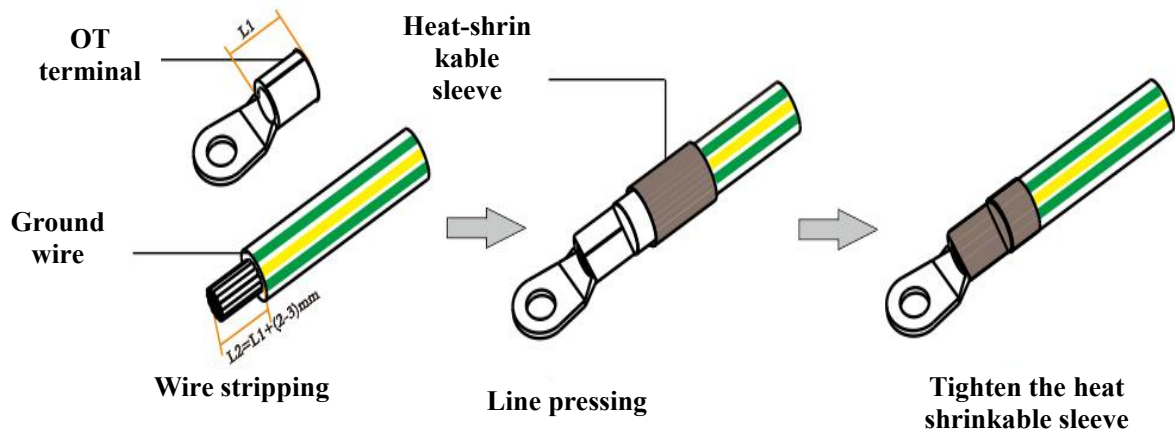
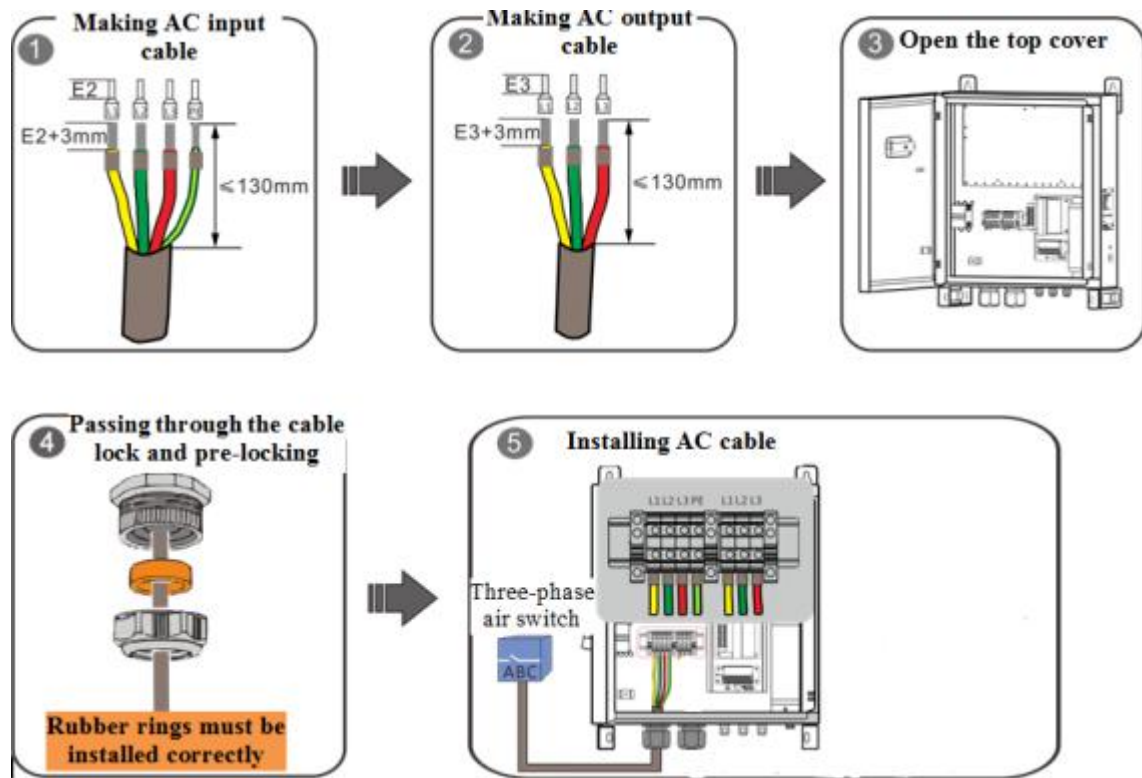

Figure 3-2 Schematic Diagram of Cable Making (OT terminal)
Figure 3-3 Cable Connection on AC Side
- (1) Before PID product installation, lead the ground wire from the ground wire bus to the product installation position;
- (2) Use wire stripping pliers to strip a section of bare copper core from the ground wire with corresponding specifications, and the length of bare copper core is 3 mm longer than the terminal of OT terminal;
- (3) Crimp the OT terminal to the bare copper core with wire crimping pliers;
- (4) Heat shrinkable sleeve with suitable size is sleeved on the terminal of OT terminal, and the length is generally recommended to be 1.5-2 times of the terminal;
- (5) Blow the heat shrinkable sleeve tightly with a hot air gun to wrap the terminal and cable tightly, and the cable is manufactured (the manufacturing process is shown in Figure 3-2);
- (6) Fasten the OT terminal of grounding wire at the grounding interface with M6 screws. Please refer to Table 3-2 for fastening torque.
- (1) Remove the cable lock on AC side and the tail plug;
- (2) Pass the cable through the waterproof cable lock, as shown in Figure 3-3;
- (3) Use wire stripping pliers to strip the insulation layer and cable sheath according to the dimensions shown in Figure 3-3-① - ②, and select the corresponding terminal according to the cable used to make the AC output cable, where two layers of heat shrinkable sleeves are required. Refer to Figure 3-2 for the cable making process;
- (4) Connect the AC cable from the low-voltage distribution cabinet to the left terminal block L1/L2/L3 through the AC INPUT cable lock. Refer to Table 3-2 for the fastening torque of the terminal fastening screws;
- (5) Connect the PE on the terminal block to the block for low-voltage distribution function;
- (6) After the connection is completed, tighten the plastic nut at the tail of the cable lock to ensure waterproof;
- (7) Repeat the above steps to connect the right terminal block L1/L2/L3 with the subarray controller input by using AC cable. After the connection is completed, tighten the plastic nut at the tail of the cable lock to ensure waterproof.